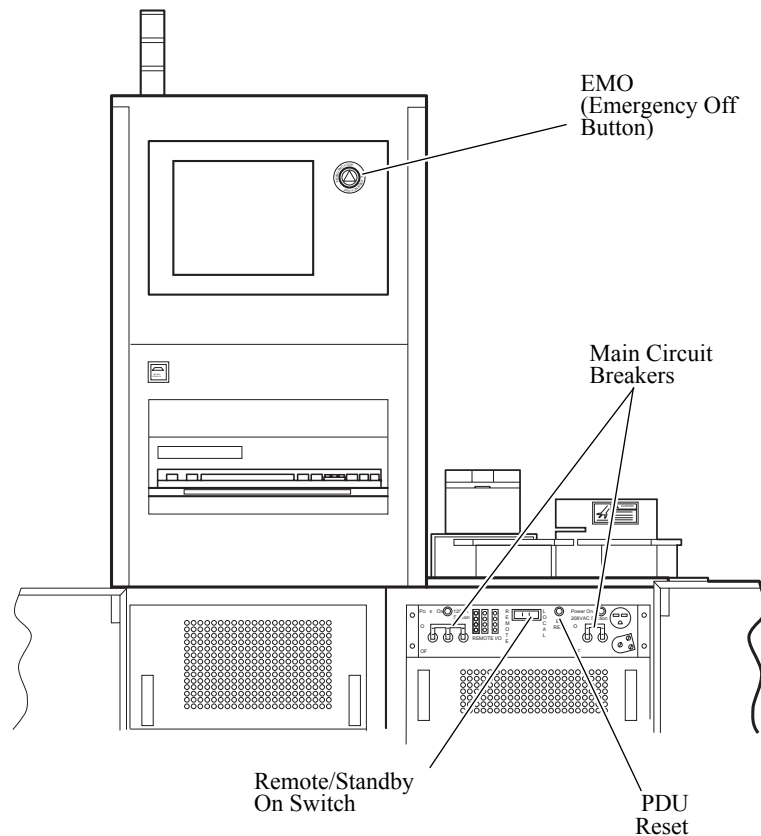
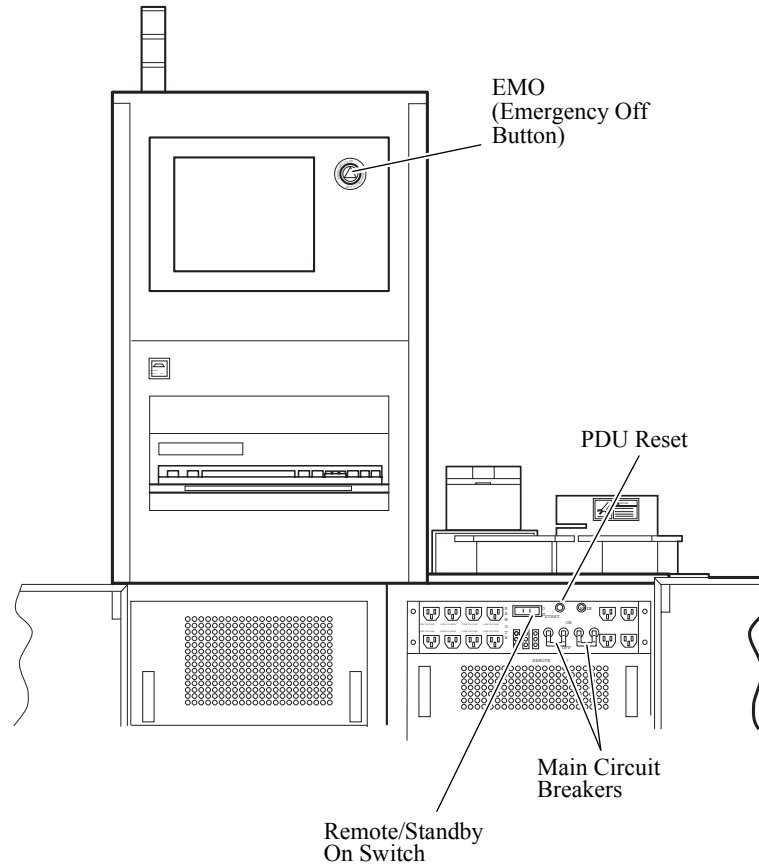

Figure 1-1: Control Tower, 200-mm Three-phase Quantox System
Figure 1-2: Control Tower, Single-phase System
The Emergency Machine Off (EMO) switch is a red button on the front of the system, next to the monitor (Figure 1-1). Pressing the EMO button removes power from the system. Use it in situations that present immediate or imminent danger to life or equipment, such as during electrical malfunctions or chemical accidents, or when smoke or fire is observed.
2. Push the PDU Reset button to reset the PDU (Figure 1-1).
2. Push the PDU Reset button to reset the PDU (Figure 1-2).
The system is protected by two main circuit breakers. The circuit breakers turn off system power if the current passing through the circuit exceeds a certain limit. The system circuit breakers are different depending on whether the system is powered by three-phase 208VAC or single-phase 230VAC. See Figure 1-1 and Figure 1-2.